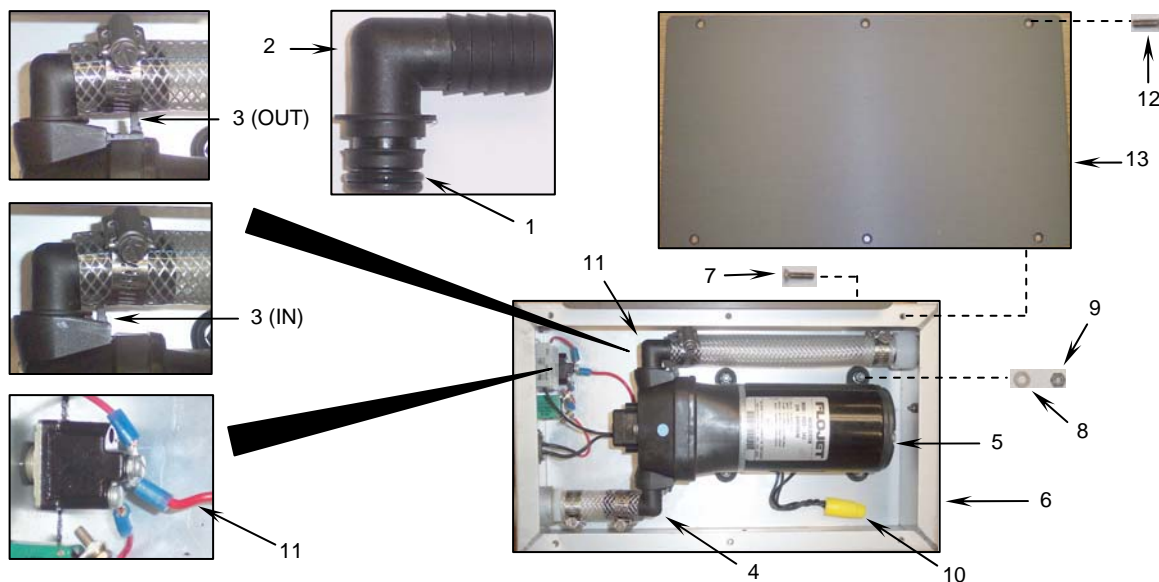

Figure 4. Installing the Sink Fill Pump Assembly Water Pump.
- a. Ensure that the pump suction elbow O-ring (**Figure 4, Item 1**) is in place on the elbow (**Figure 4, Item 2**), then slide out the pump suction elbow retaining tab (**Figure 4, Item 3**) and insert the pump suction elbow. Push the retaining tab all the way in.
- b. Install the pump discharge elbow (**Figure 4, Item 4**) the same way.
- c. Position the pump (**Figure 4, Item 5**) in the enclosure (**Figure 4, Item 6**) and secure with the four flat head machine screws (**Figure 4, Item 7**), four flat washers (**Figure 4, Item 8**), and four self-locking nuts (**Figure 4, Item 9**).
- d. Twist the black pump wire together with the other two black wires and secure using a new watertight wirenut (**Figure 4, Item 10**) and the Sink Fill Pump Assembly Wiring Diagram.
- e. Connect the red pump wire (**Figure 4, Item 11**) on the wiring diagram to the POWER ON/OFF switch and coat the connection with corrosion preventative sealant.
- f. Apply sealing compound to the six machine screws (**Figure 4, Item 12**) and secure the cover (**Figure 4, Item 13**) to the fill pump assembly enclosure (**Figure 4, Item 6**) using the six screws.